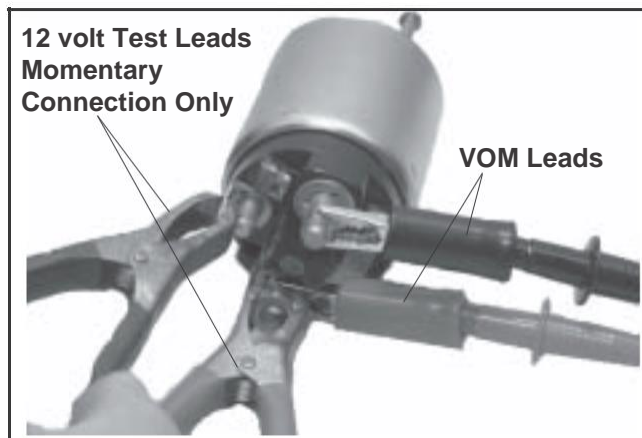

Figure 8-59. Testing Pull-In Coil/Solenoid Contact Continuity.
Use an ohmmeter set to the audible or Rx2K scale, and connect the two ohmmeter leads to the two large post terminals. Perform the preceding test (1) and check for continuity. See Figure 8-59. The ohmmeter should indicate continuity, if no continuity is indicated the solenoid should be replaced. Repeat test several times to confirm condition.